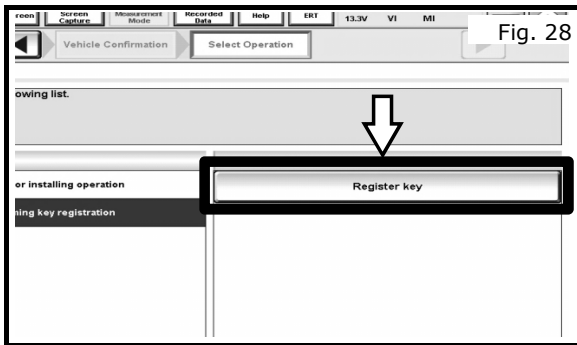

Fig. 28
- a) Once you click "When performing key registration" a new Contents of Operation selection "Register Key" will be available as shown in Fig. 28.
- b) Under Contents of Operation selection click "Register Key" as shown in Fig. 28.